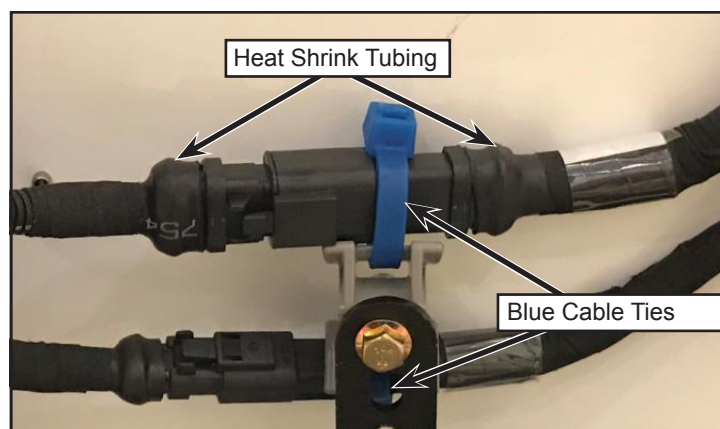

Figure 4 - Cut Cable Ties Securing DTP and DT Connectors and Remove Heat Shrink Tubing on DTP Connectors
- 1.10. Cut the two blue cable ties on the dual tie mount securing the Deutsch DTP (large) and DT (small) connectors (see figure 4).
- 1.11. Remove the heat shrink tubing and the Coroplast tape from the DTP power connectors (see figure 4) and then disconnect the DTP power connectors (**do not modify the DT signal connectors**). To help removing the heat shrink tubing, trace a shallow line on the heat shrink tubing with a sharp cutting blade (X-ACTO tool or equivalent) and then, using a heat gun, heat the tubing until it splits.